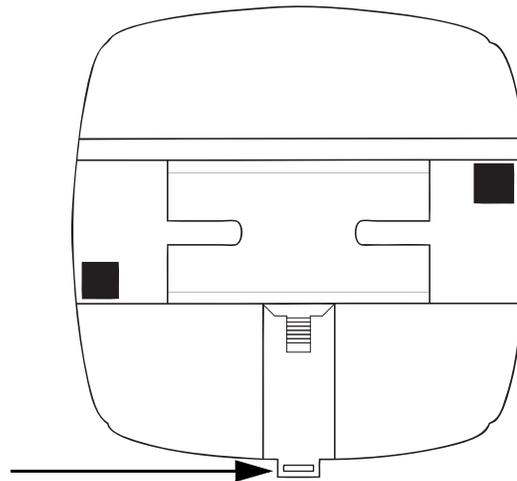

Figure 3-8: DIN Rail Detail
- If mounting with the DIN Rail provided, use the black rubber stoppers, also provided (see Figure 3.8).